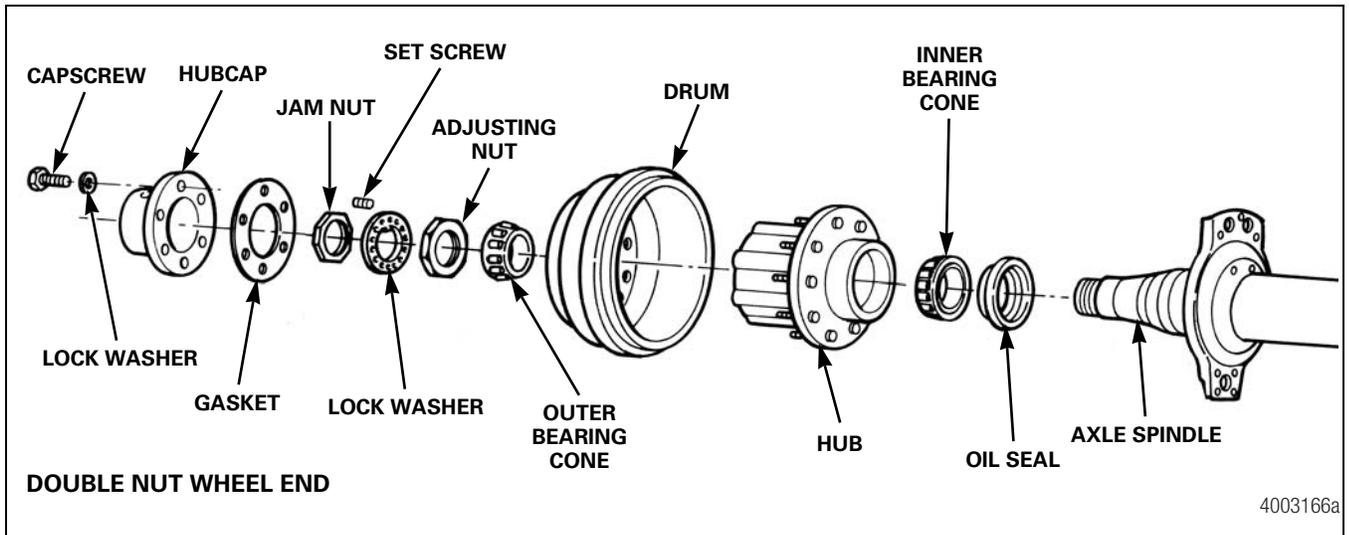

Figure 3.7
- Remove the set screw from the lock washer. Then remove the jam nut, lock washer and adjusting nut. Figure 3.7.
- Remove the inner bearing cone and seal from either the spindle or hub. Discard the seal. Figure 3.7.